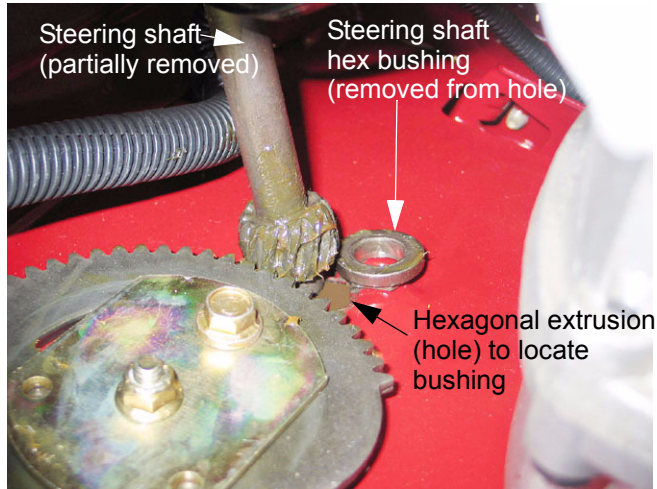

Figure 15.7
15.7. From this point, the steering shaft may be lifted slightly to remove the hex bushing that locates it. See Figure 15.7.